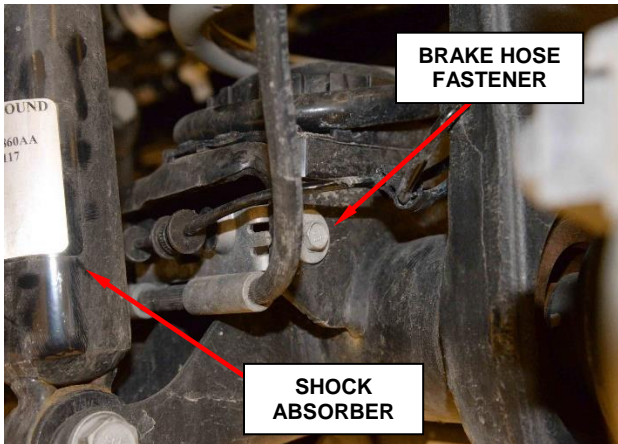

Figure 10 – Axle Fastener
14. Remove the brake hose mounting fastener on the coil spring pad (Figure 10).
25. Position the brake hose bracket to the axle spring seat and install the bolt and tighten to 11 N·m (8ft.lbs.) (Figure 10).